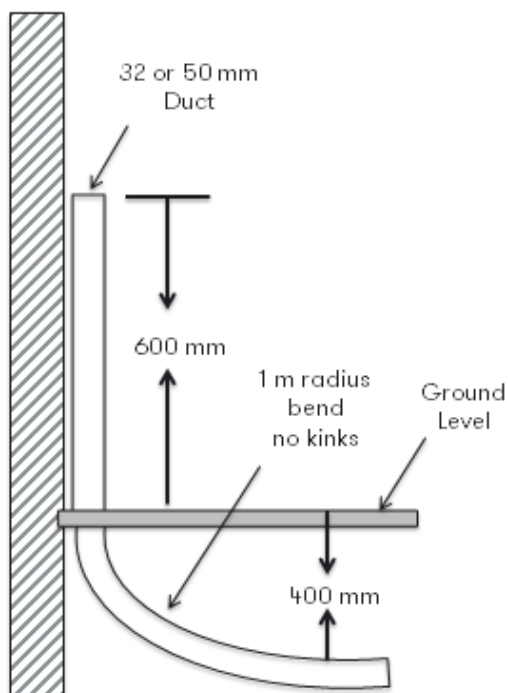

Fig 1 External Duct without ETU
- Locate the duct on a convenient external wall to a height of 600 mm above ground level if an ETU cannot be provided. (Fig 1)